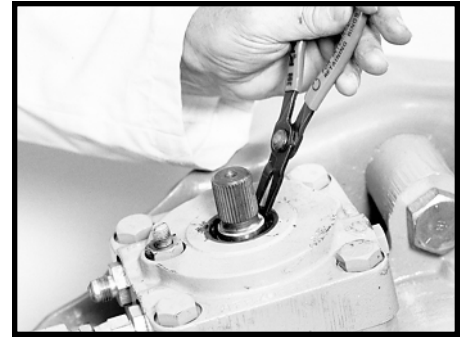

Figure 26
2.4 Remove the seal retaining ring (5) from the valve housing (8). SEE FIGURE 26.